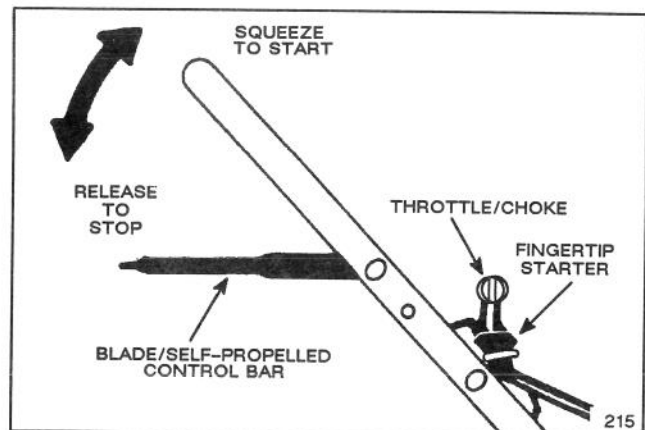
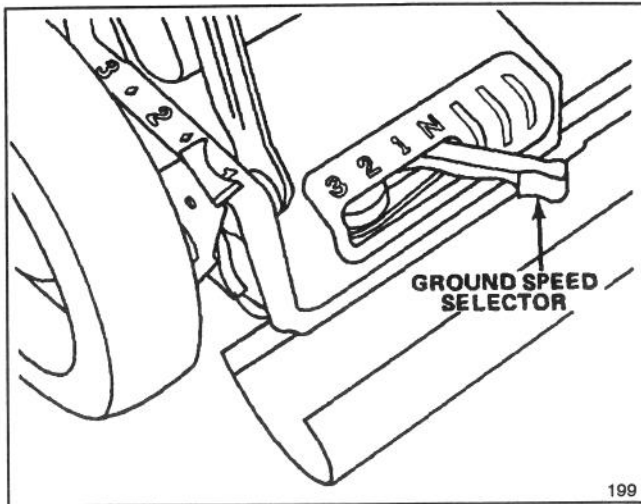
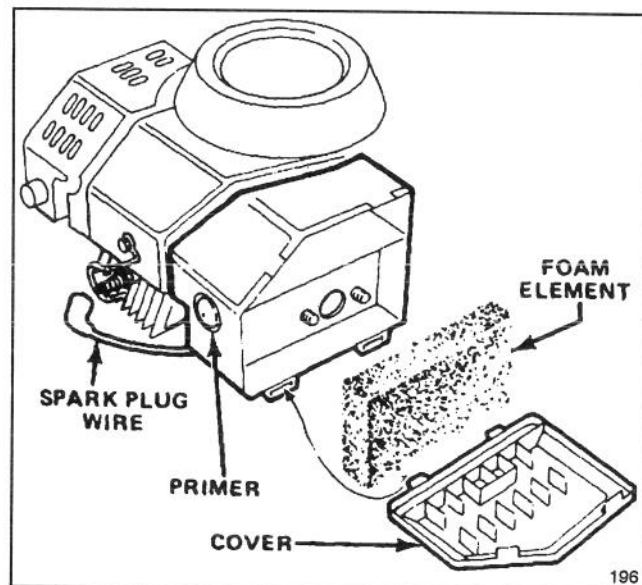

Figure 12
Figure 13
Figure 16
1. **CONTROLS**—Throttle, blade/self-propelled control bar, and fingertip starter are on upper handle (Fig. 12). Ground speed selector is on rear of mower housing (Fig. 13).
2. Push spark plug wire onto spark plug (Fig. 16).
3. **STARTING**—Move ground speed selector to “N” and throttle to **CHOKE**. Cover hole in center of primer with thumb and push once (Fig. 16). Hold control bar against handle. Pull fingertip starter (Fig. 12) out until positive engagement results; then pull vigorously to start the engine. Regulate throttle as desired when engine starts.
5. **STOPPING** (Fig. 12)—Move ground speed selector to “N”. Release control bar to stop traction drive, engine, and blade. Pull wire off spark plug if mower will be unattended or not used.
1. Stop engine and pull wire off spark plug (Fig. 16).
2. Lift tabs at top of air cleaner cover and pivot cover down (Fig. 16). Clean cover thoroughly.
3. If outside of foam element is dirty, remove it from air cleaner body (Fig. 16). Clean thoroughly.